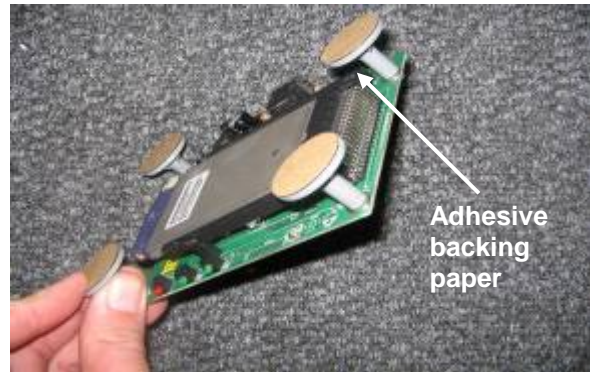

Figure 2. Secure the stand-off pillars.
2. Use the provided screws and washers (items 5 and 6) to secure the stand-off pillars to the electronics you wish to install. Be sure that the height of electronics and pillars does not exceed 40mm (refer to figure 2).